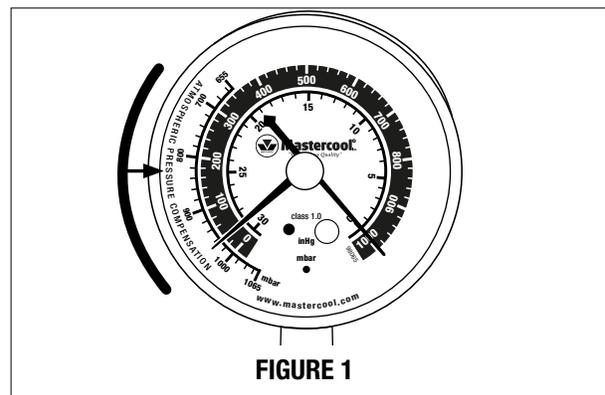

FIGURE 1
- b. Find the barometric pressure on the small outer scale (fig 1). That will be absolute zero - the lowest vacuum reading that can be achieved.